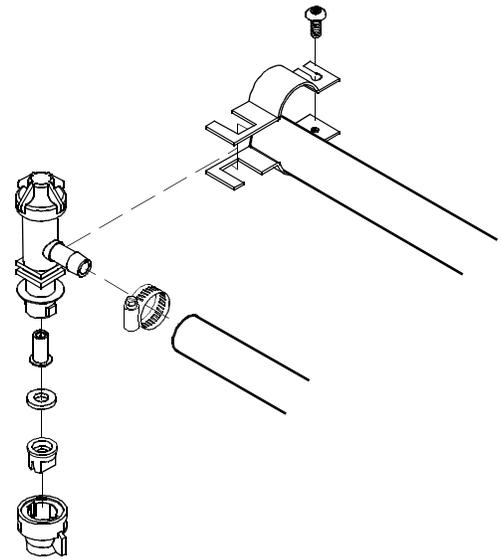

Figure 1: Nozzle Body Mounting
3. Connect the vinyl hose to the nozzle body with an included hose clamp. (See Figure 1 for nozzle body mounting visual.) The spray nozzle, nozzle body cap, and tip strainer then need to be installed onto the nozzle body. See page 12 for a breakdown of the complete nozzle body.